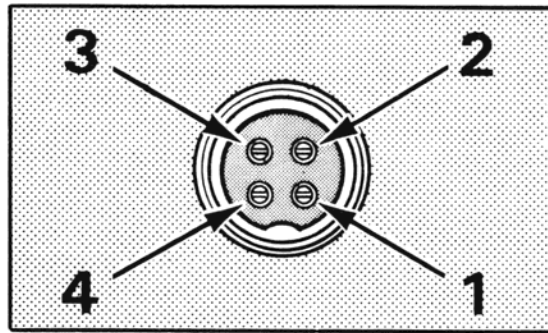

Fig. 6. Microphone plug pin numbers viewed from rear of pin receptacle.
5. The wires must now be soldered to the pins as indicated in the above wiring tables. If a vise or clamping tool is available it should be used to hold the pin receptacle body during the soldering operation, so that both hands are free to perform the soldering. If a vise or clamping tool is not available, the pin receptacle body can be held in a stationary position by inserting it into the microphone jack of the front panel. The numbers of the pins of the microphone plug are shown in Fig. 6, as viewed from the back of the plug. Before soldering the wire to the pins, pre-tin the wire receptacle of each pin of the plug.